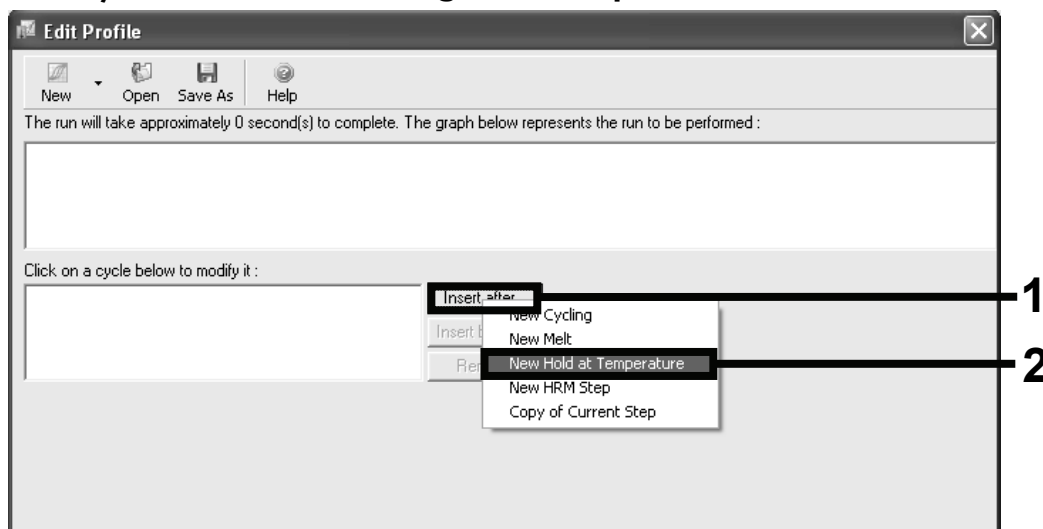

Figure 18. Initial incubation step at 95°C.
Initial activation of the hot-start enzyme	Figure 18, 19
13. Click the “Insert after” button and select “New Hold at Temperature” (Figure 18). Click “60” to change the temperature to 95°C.